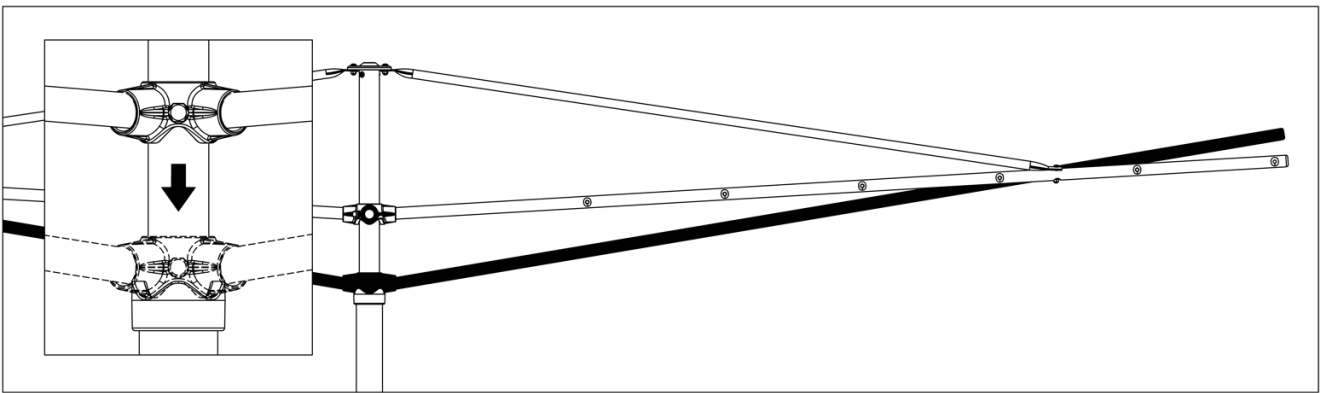

Fig 7. Loosen cross and move down.
2. Loosen the bolt in the cross and slide the cross down until it rests in the reducer. (Fig 7).